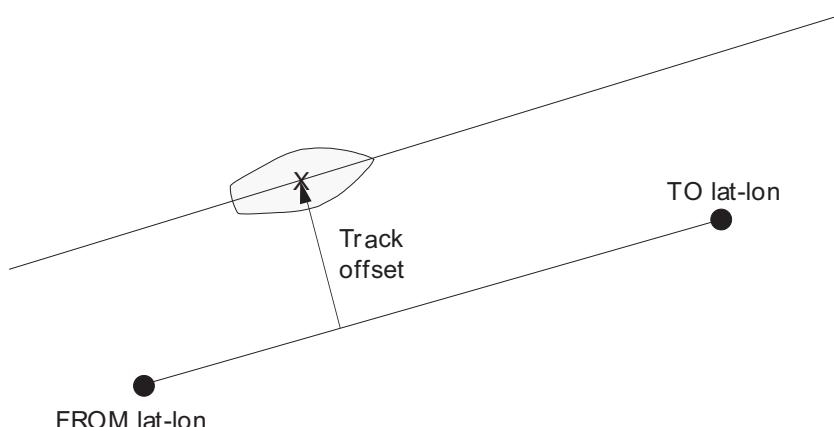

Figure 8: Illustration of SETNAV Parameters
This command permits entry of one set of navigation waypoints (see *Figure 8* on *Page 199*). The origin (FROM) and destination (TO) waypoint coordinates entered are considered on the ellipsoidal surface of the current datum (default WGS84). Once SETNAV has been set, you can monitor the navigation calculations and progress by observing the NAVIGATE log messages.
Track offset is the perpendicular distance from the great circle line drawn between the FROM lat-lon and TO lat-lon waypoints. It establishes the desired navigation path, or track, that runs parallel to the great circle line, which now becomes the offset track, and is set by entering the track offset value in metres. A negative track offset value indicates that the offset track is to the left of the great circle line track. A positive track offset value (no sign required) indicates the offset track is to the right of the great circle line track (looking from origin to destination). See *Figure 8* on *Page 199* for clarification.